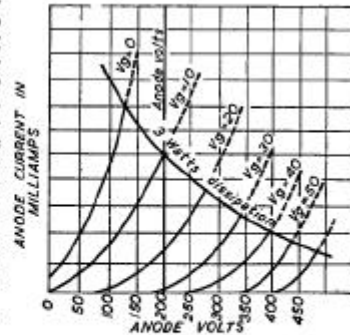
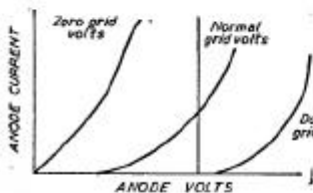

Fig. 89.—Dynamic valve curves.
Fig. 90.—Dynamic curves simplified.
**Dynamic Curves.**—We must, therefore, prepare a new set of curves known as dynamic curves. These curves are much more difficult to prepare, and it is unfortunate that some valve manufacturers hesitate to give them. Fig. 89 shows the way in which dynamic curves are drawn, and it will be observed that the values of both grid bias and H.T. are carried to a value higher than that which is normally used. In fact, in order to make use of these curves we must show the current at the correct working point, i.e., at correct anode volts and correct grid volts, and in addition at half and double these values.
**Undistorted Output.**—The curves shown in Fig. 86 may be expressed in a much simpler way for the purpose of explaining the method of ascertaining the undistorted output of the valve, and Fig. 90 is an indication of how the curves may be simplified. It shows the anode current curve at normal grid bias, double and half grid bias, all the other lines in Fig. 89 being omitted.
Having drawn this line we drop a vertical line at the point of intersection of the load line and the line corresponding to double grid bias. This gives us a triangle as shown in Fig. 90. Now the formula for finding the undistorted output is: